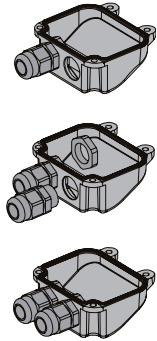

Fig. 21
- 1) Open the second pre-drilled hole in the cover, Fig.21.
- 2) Fit the supplied cable gland, Fig.21